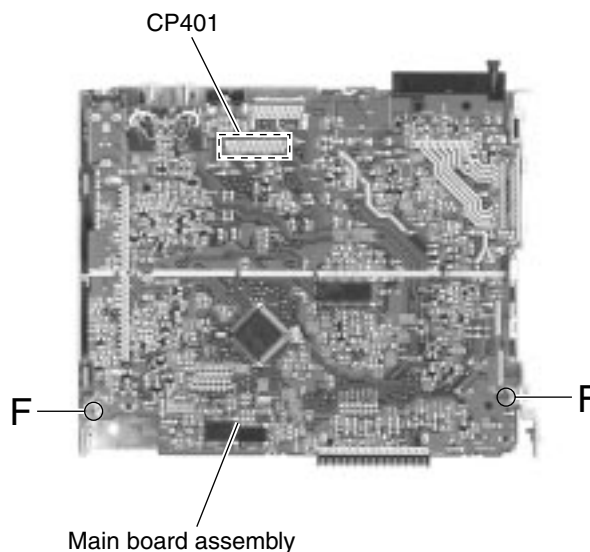

Fig. 8
■ **Removing the main amplifier board assembly (See Fig.8)**